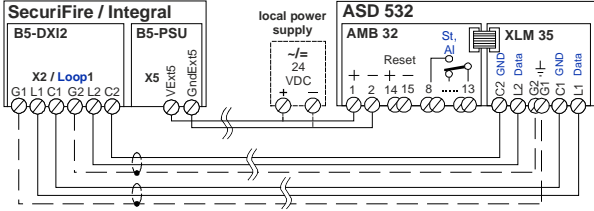

Fig. 38 Connection from XLM 35
- The connection and line routing between XLM 35 and the SecuriFire and Integral FACP is to be carried out in accordance with Fig. 38 (L1 to L1, C1 to C1, etc.).